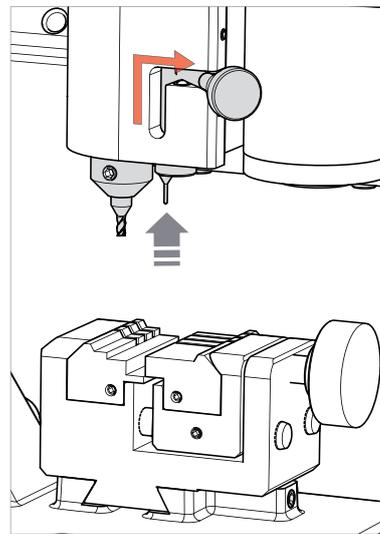

Fig. 33
**NOTE:** for cutting and/or decoding operations with the tracer point 02T, the tracer 01T must be in the idle position (Fig. 33). REPLACE THE 02T TRACER WITH THE REQUIRED CUTTER PRIOR TO ATTEMPTING TO CUT A KEY.